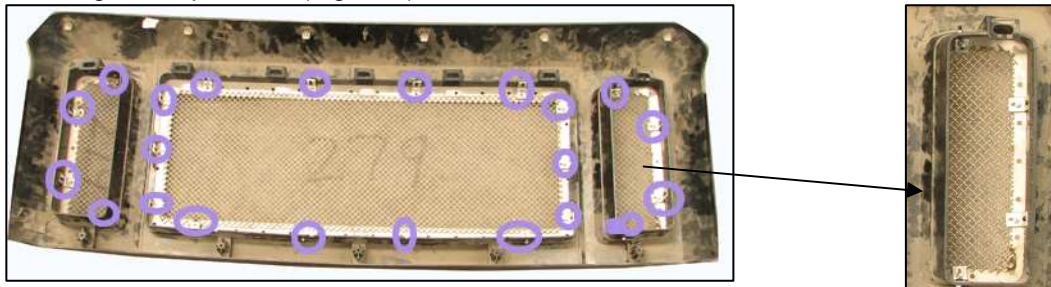

Figure 3 – Rear view of vehicle's shell; Grills attached with Metal Brackets and Flange Nuts
10. Attach the Grille to the shell by inserting the screws through the tabs of L Brackets and holes on the shell, secure them with Flange Nuts provided (Figure 3).